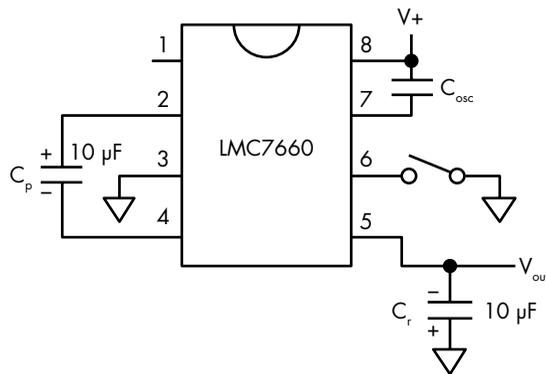

Figure 7-3: LMC7660 pinout
- One LMC7660 power inverter (The pinout is shown in Figure 7-3.)